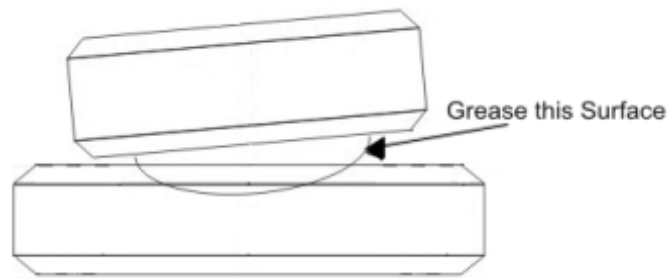

Figure 3 – Tilt Saddle
- ⚠ To reduce cylinder offset loading, optional swivel saddles are available. Always use grease underneath swivel saddles (see *Figure 3*)